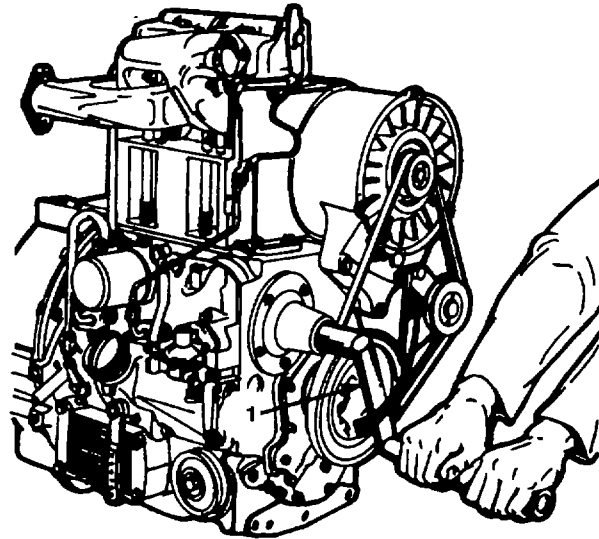

Figure 2-7. Cranking Device
- 4. Place crank in crank hole and turn counterclockwise (engine will turn freely approximately six turns before compression) (figure 2-7).